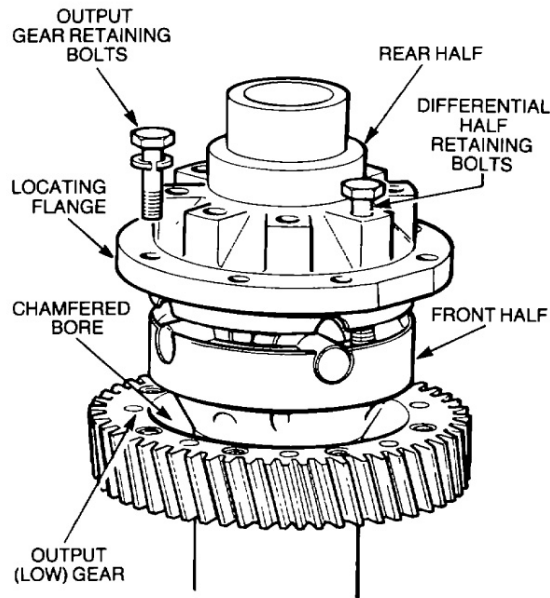

Figure 1 Differential Assembly
- v. Remove and discard each spring washer (Figure 1).